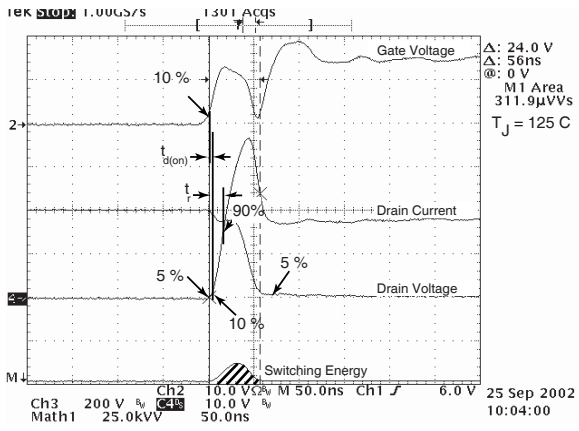

Figure 18, Turn-on Switching Waveforms and Definitions
③ See MIL-STD-750 Method 3471
④ Starting TJ = +25°C, L = 6.64mH, RG = 25Ω, Peak IL = 17A
⑤ dv/dt numbers reflect the limitations of the test circuit rather than the device itself. IS ≤ -ID 17A di/dt ≤ 700A/μs VR ≤ VDSS TJ ≤ 150°C
⑥ Eon includes diode reverse recovery. See figures 18, 20.